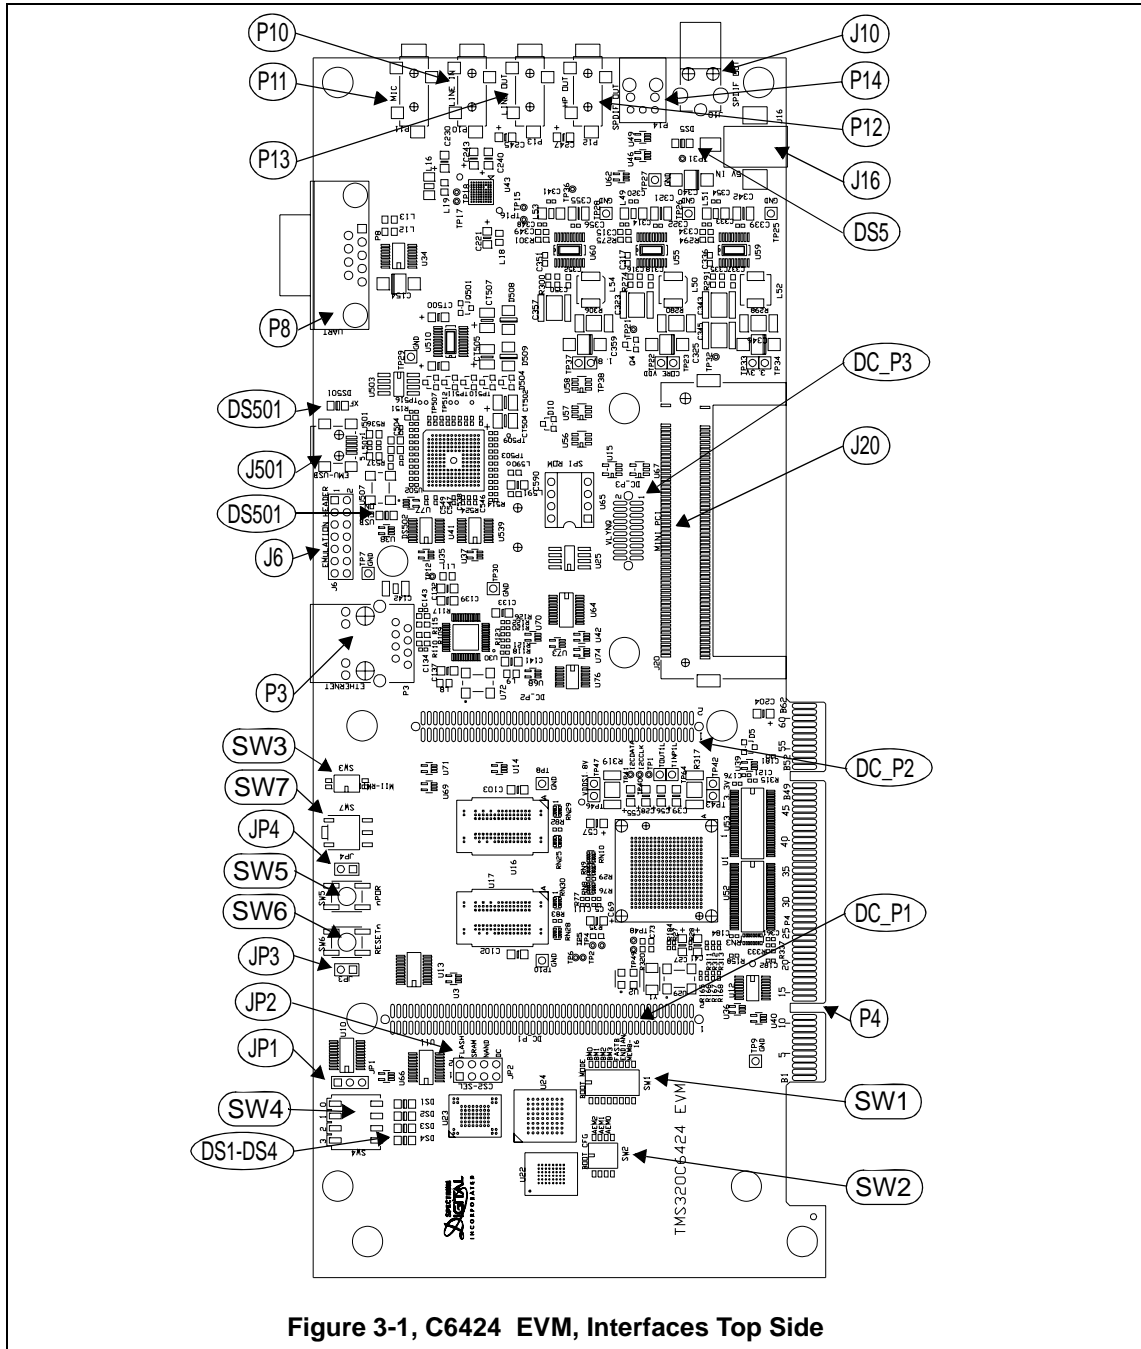

Figure 3-1, C6424 EVM, Interfaces Top Side
The C6424 EVM is a 8.75 x 4.5 inch (210 x 115 mm.) ten (10) layer printed circuit board which is powered by an external +5 volt only power supply. Figure 3-1 shows the layout of the C6424 EVM.